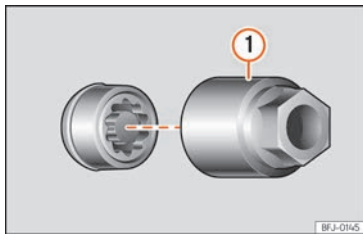

Fig. 196 Anti-theft wheel bolt with cap and adapter.
- Insert the special adapter » » » **Fig. 196 ①** (vehicle tools » » » **page 250**) onto the anti-theft wheel bolt and push it on as far as it will go.